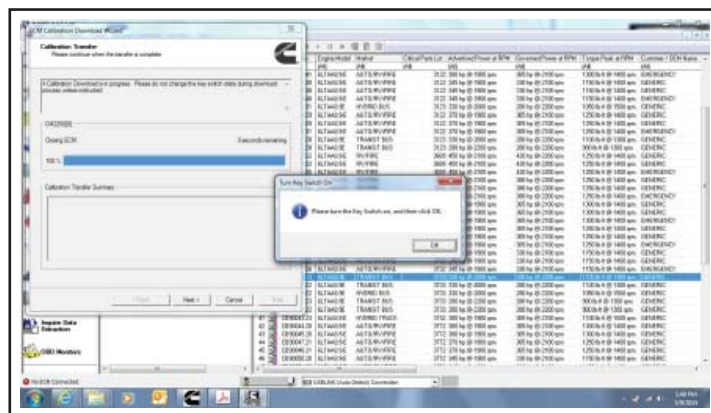

Figure 24 - Pop-up Instruction Window
1.24. After, another window will pop up indicating to turn switch key back on then click ok. See Figure 24.